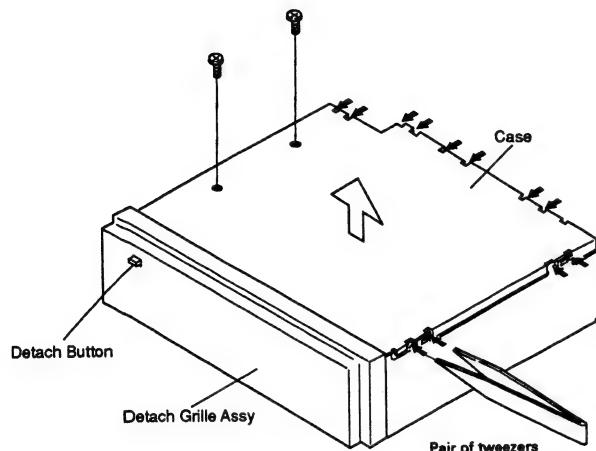

Fig.13
1. Press the detach button. (Fig.13)